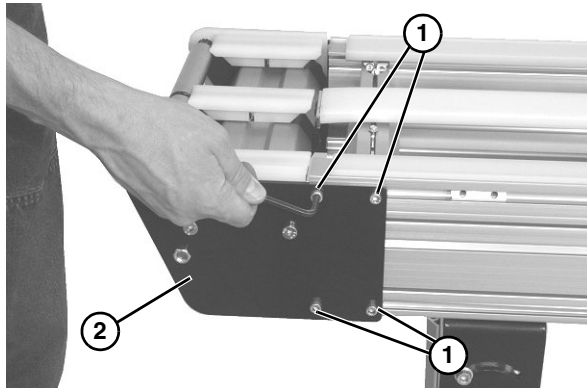

Figure 47
2. On one side of conveyor, loosen the four socket head screws (**Figure 47, item 1**). Repeat on opposite side.
3. Remove idler tail assembly (**Figure 47, item 2**).